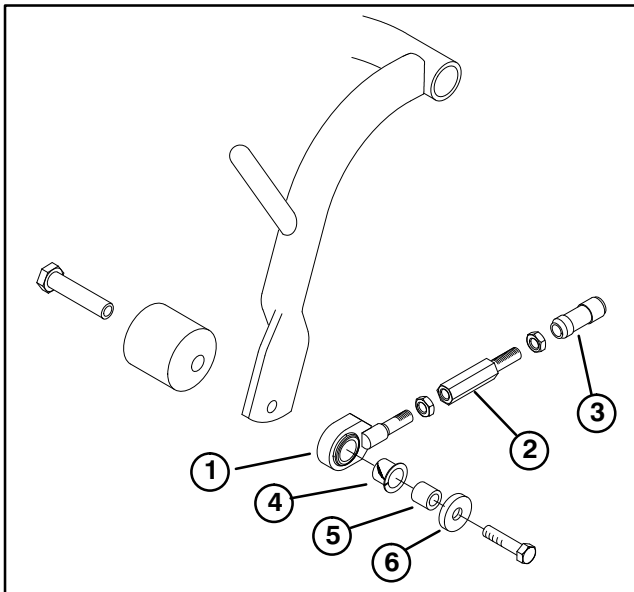

Figure 1
- Loosely mount a anti-scalp roller and a pull link assembly to outer end of each front carrier frame with a roller shaft, spacer, washer and capscrew (Fig. 1). Make sure nylon bushing is in pull link.